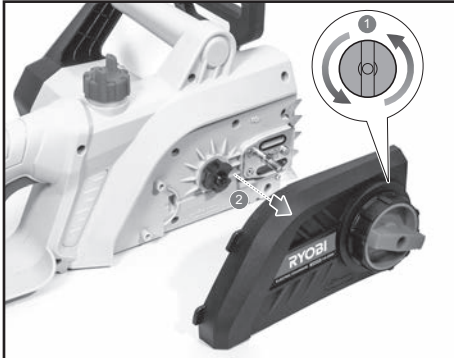

Fig. 1
Unscrew the guide bar locking knob (1) and remove the sprocket cover (2), Fig.1.